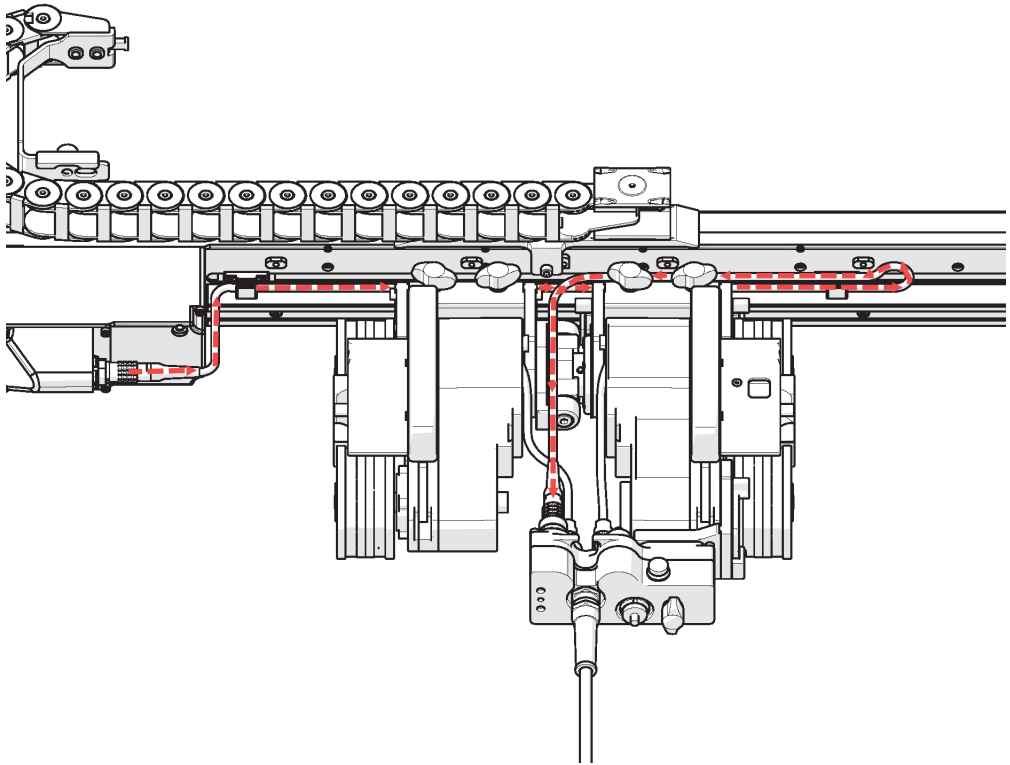

Figure 2-46 Raster arm cable routing
The raster arm cable connects the raster arm module to the umbilical. The cable provides 36 VDC and network connections to the raster arm module and transmits the raster arm encoder signals to the umbilical (see Figure 2-46 on page 87).
1. Plug the supplied raster arm cable into the raster arm's connector (see Figure 2-46 on page 87) located on the raster arm encoder housing.